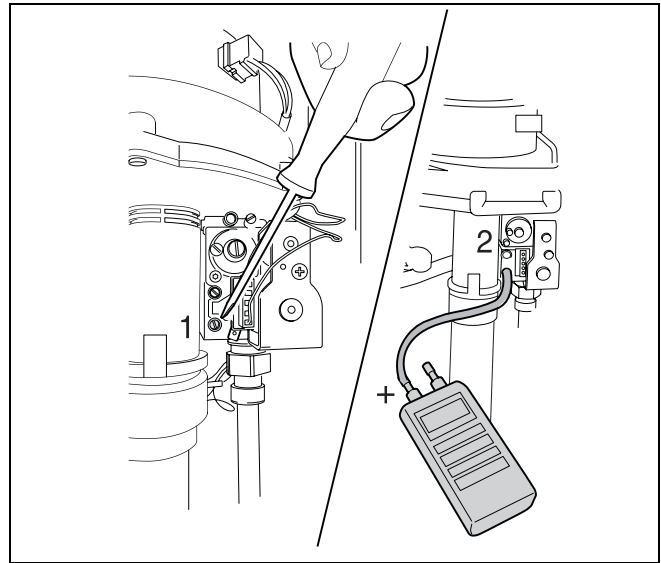

fig. 45 Measuring the gas-supply pressure
- Attach a tube from the pressure gauge to the gas test nipple (the lower one, → fig. 45, item 2).